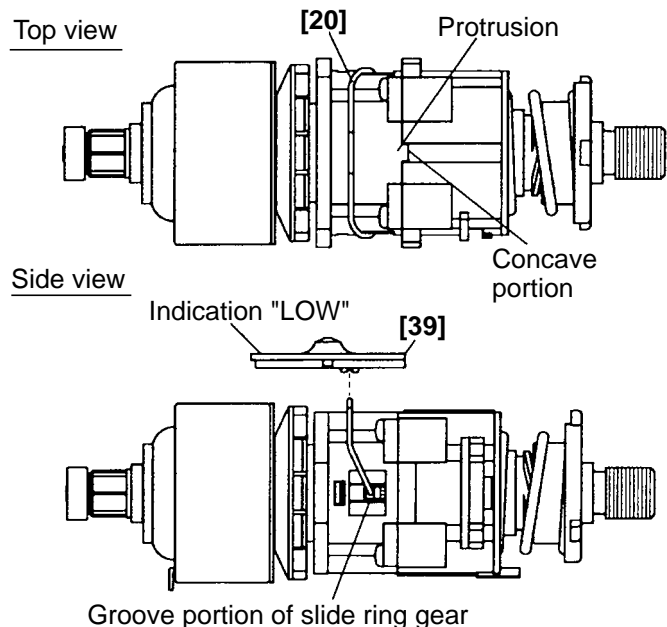

Fig. 11
- ③ Mount the Front Case **[8]** to the Rear Case **[18]** so that the concave portion of the Front Case **[8]** aligns with the protrusion of the Rear Case **[18]** (see Fig. 11).
(b) Mounting the Shift Arm [20] and the Shift Knob [39] (See Fig. 11.)